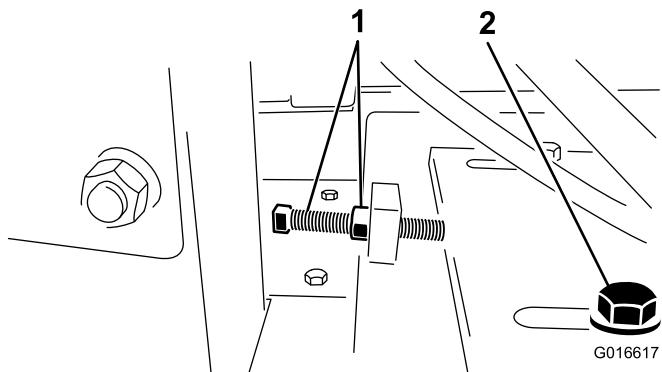

Figure 26
4. Loosen the belt tension bolt and jam nut (Figure 26).
4. Loosen the belt tension bolt and jam nut, slide the engine toward the flywheel housing to loosen belt (Figure 26).